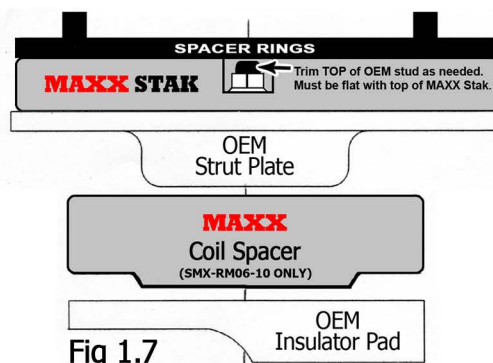

Fig 1.7
16. Place MAXX Stak Advanced Leveling Kit spacer on upper strut amount over mounting studs. Add black spacer rings ABOVE aluminum MAXX spacer for more lift. Tighten nuts. Mark original stud length and trim as needed (STUD MUST BE FLAT WITH TOP OF MAXX STAK) See Fig 1.7